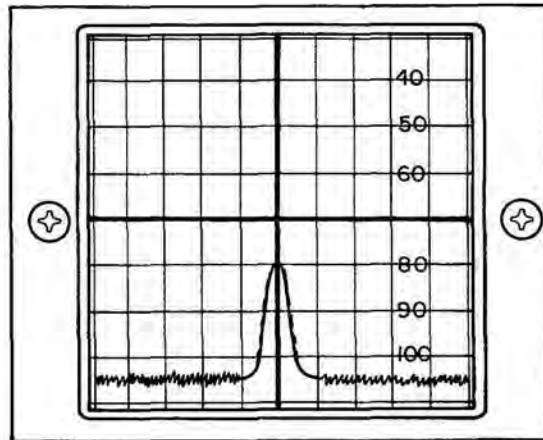

Figure 3-20 -80 dBm BFO Signal Measured Along dB Scale Of CRT Graticule
13. Set RCVR WIDE/MID/NARROW Switch (12) to "WIDE".
14. Set RF FREQUENCY MHz Thumbwheels (34) to "0100100" and verify FREQ ERROR Meter (43) displays -10 kHz (± 1.0 kHz).
15. Set RF FREQUENCY MHz Thumbwheels (34) to "0099900" and verify FREQ ERROR Meter (43) displays +10 kHz (± 1.0 kHz).
16. Disconnect Probe from ANTENNA Connector (46) and 10 MHz REF OUT Connector (15).
17. Set RF FREQUENCY MHz Thumbwheels (34) to "1202000".
18. Set BFO/OFF Switch (20) to "BFO" and adjust BFO-RF LEVEL Control (7) cw until INPUT LEVEL Lamp (47) illuminates. Verify that the BFO-RF LEVEL Control (7) is set between .2 μ V and 2 μ V.
19. Rotate SQUELCH Control (17) cw and verify that the INPUT LEVEL Lamp (47) goes out; then return SQUELCH Control (17) to full ccw position, short of detent.
20. Set RCVR WIDE/MID/NARROW Switch (12) to "NARROW".
21. Rotate BFO-RF LEVEL Control (7) fully ccw.
22. Adjust BFO-RF LEVEL Control (7) cw until INPUT LEVEL Lamp (47) illuminates and verify that the BFO-RF LEVEL Control (7) is set between .2 μ V and 2 μ V.
23. Adjust BFO-RF LEVEL Control (7) to "-80 dBm" position and verify that the displayed signal on CRT Display (34) is -80 dBm (± 9 dB) in amplitude (see Figure 3-20).